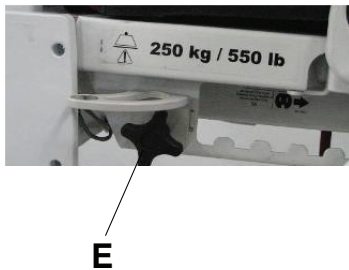

Figure 111 – Attaching the screw knob
2. Attach the screw knob onto the bracket back (E) (Figure 111).